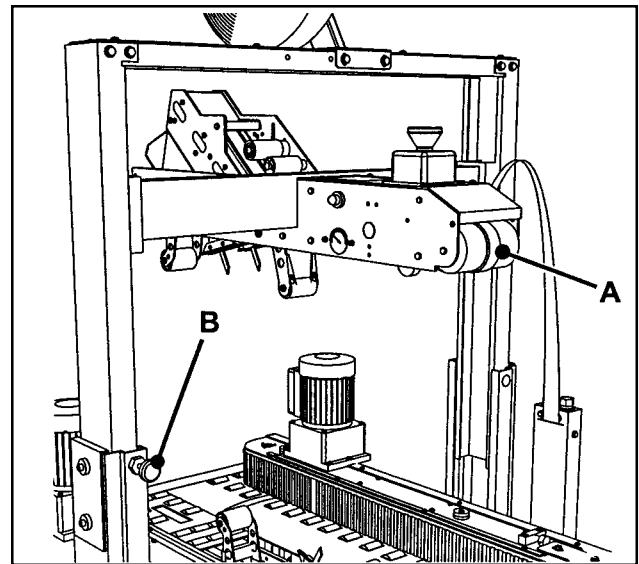
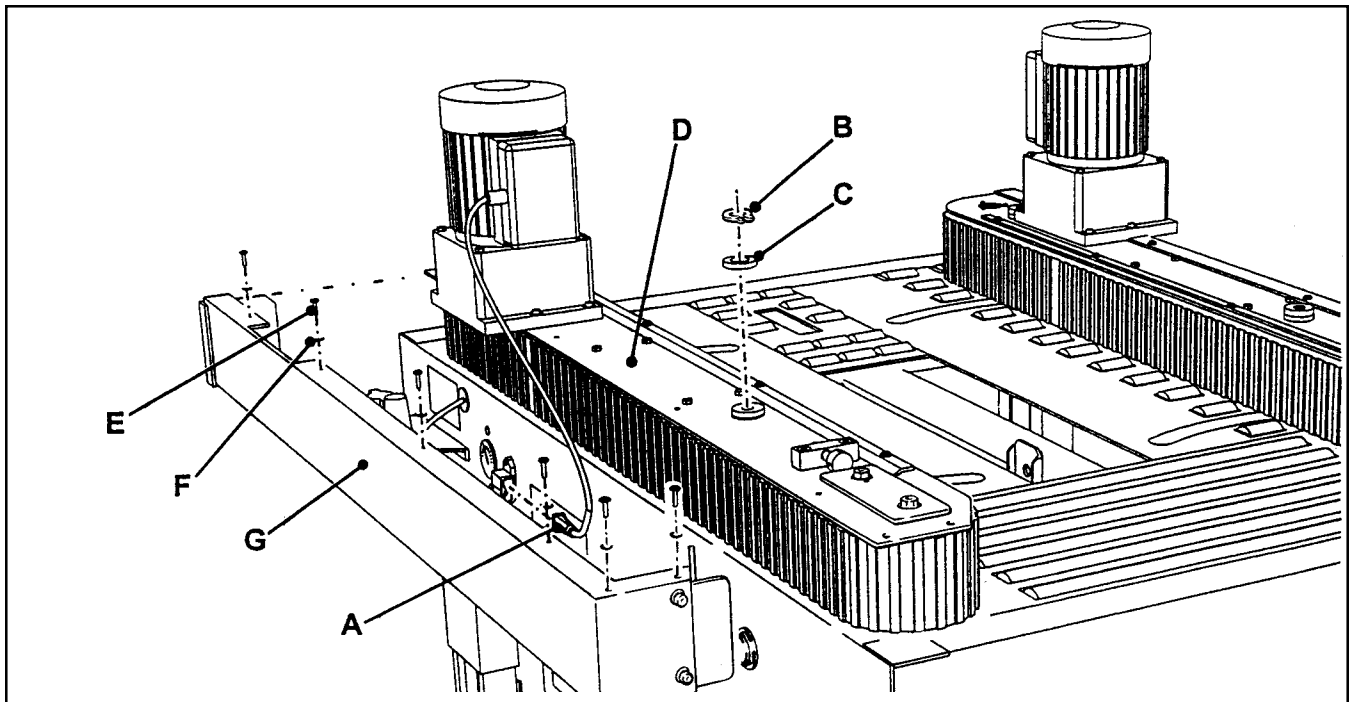

Figure 3-6 – Latching Knob, Upper Taping Head Frame
Figure 4-2 – Box Drive Belt (Left Side View – Infeed End)
11 **Latching Knob, Upper Taping Head Frame – Figure 3-6**
3. Push and hold the latching knob (B). Figure 3-6, page 16.
4. Release switch (A). Knob (B) will lock the upper head assembly in the upper position.
6. Disconnect motor plug (A). Figure 4-2.
7. Remove and retain snap rings (B) and special washer (C) from front and rear arm assembly pivots. Figure 4-2.
8. Lift side drive assembly (D) up and off arm assembly pivots. Figure 4-2.
9. Remove and retain the four screws (E), washers (F) and side cover (G). See Figure 4-2.